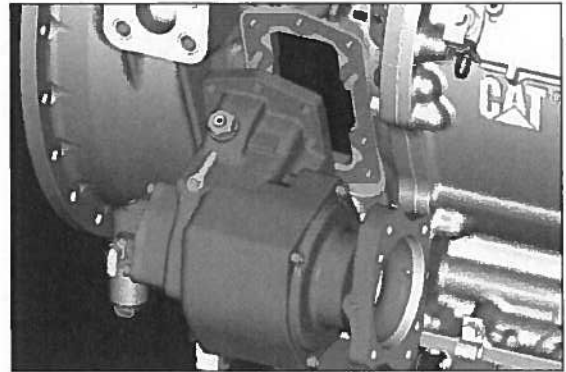

Fig. 27
5. Position the PTO and secure it with the top capscrew provided (Fig. 27).